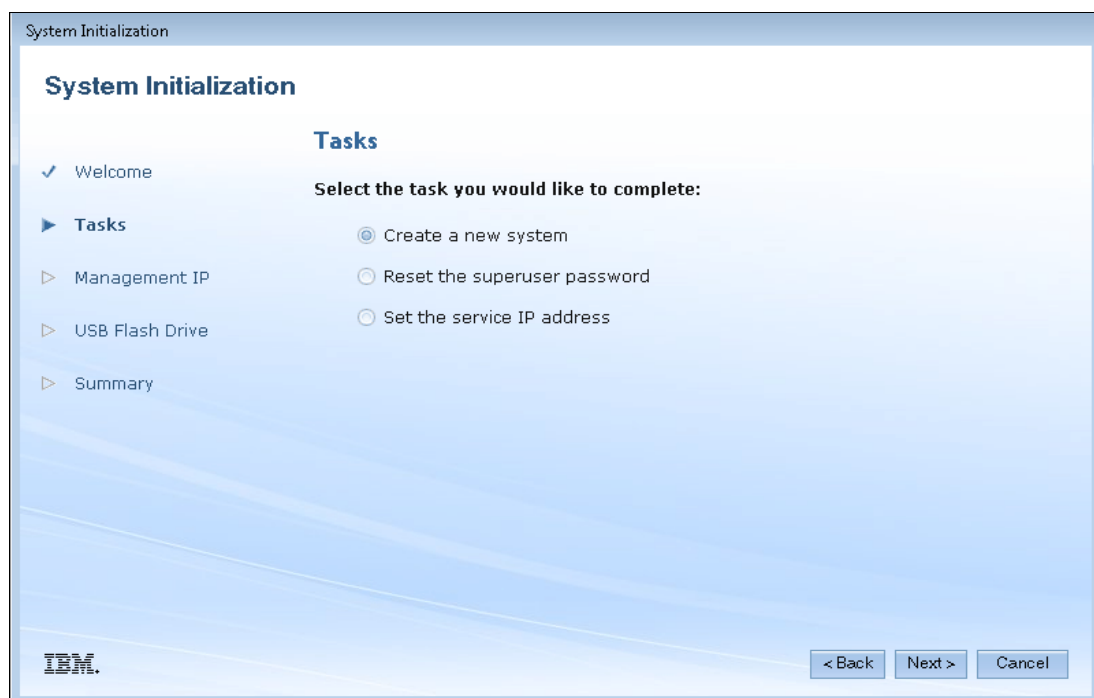

Figure 2-9 System Initialization: Create a system
2. The options for creating a system are shown in Figure 2-9.